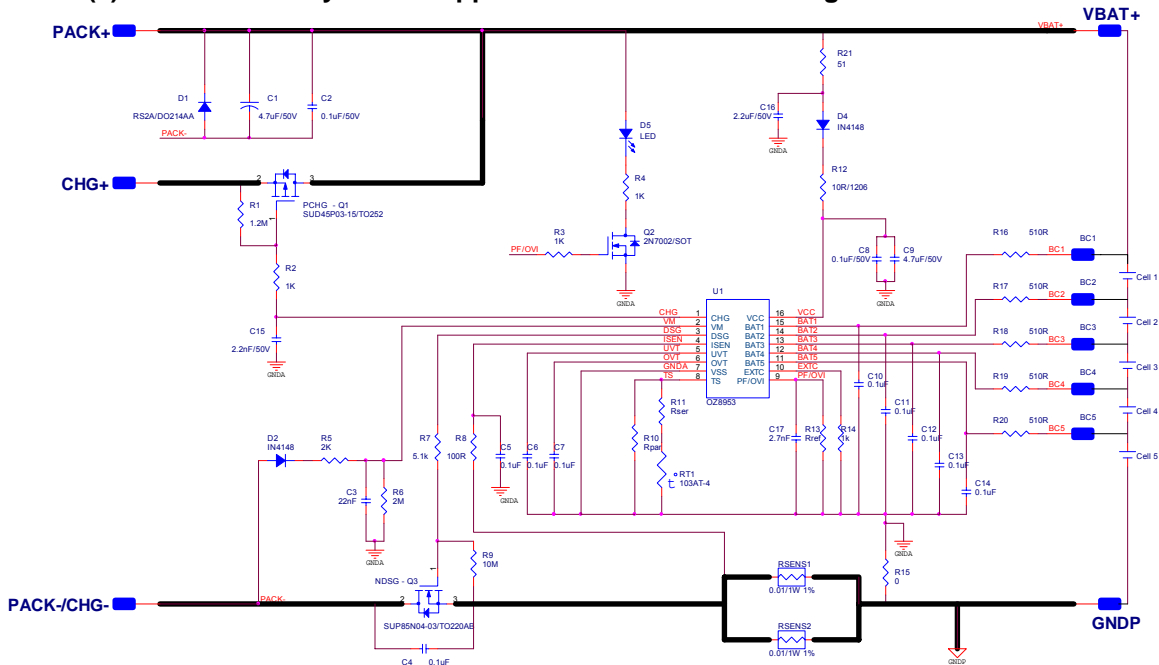

Figure 18 OZ8953 reference circuit (2)
Over-Voltage indication function shares Pin 9 with Permanent-Failure (PF) Blow Fuse protection function, it is an alternative function and configured by O2Micro before product shipment. OZ8953 XX-3,-4 & -7,-8 support OV indication function, when any battery cell voltage becomes higher than V_{OVP} and continues for T_{OVP} or longer, the PF/OVI pin will output high level, which can be used to drive one buffer and turn on LED indication. Refer to Figure 18 for an